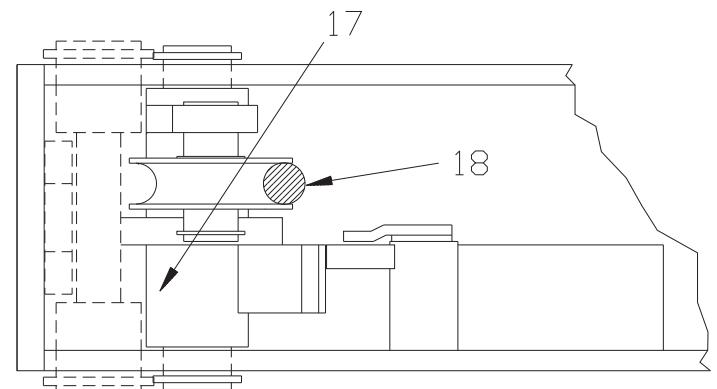

Fig.45 Positioning of lifting cable sensors
Close the panel, put the switch (QS) in pos. 1 and make the lift rise until clearing the wedges (A-B-C-D); then put the switch in position 0 and close them again. Put the main switch (QS in fig. 49) in position 1, press the lowering button (SB2) and check if the lift lowers. If this doesn't happen, check the adjustment of the four cable sensors (pos. 17, fig. 45) and, if necessary, adjust them by acting on the screw of the micro switch release lever (pos. 36, fig. 50).